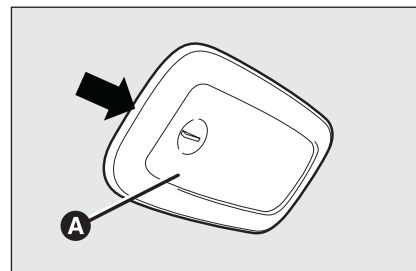

fig. 38
- ☐ remove the light unit **A-fig. 38** levering in the point shown by the arrow;